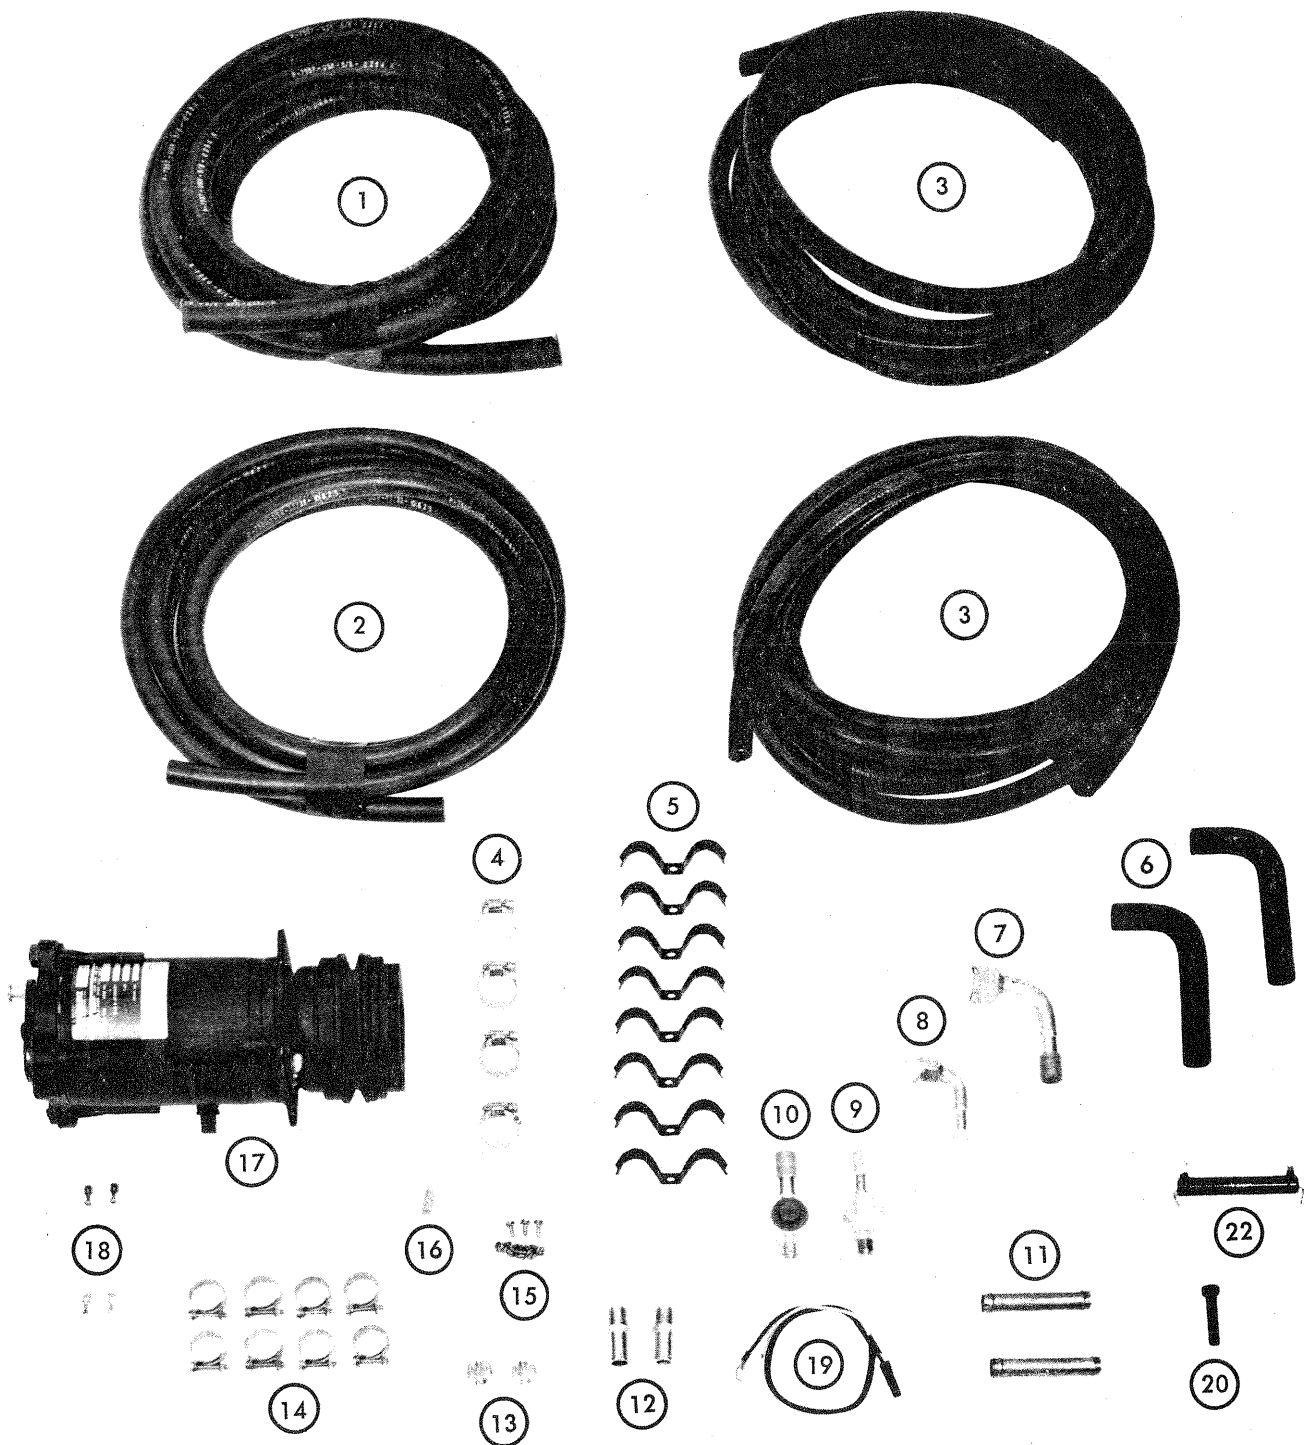

FIGURE 3
Both 524AX models are shipped in two cartons which include (1) basic roof top unit including mounting frame and interior control and outlet (console) assembly, and (2) balance of all necessary parts such as hoses, fittings, clamps and compressor. (See figs. 3 & 4.)
If a Frigidaire (Delco) compressor is used, suction and discharge fittings must be attached. Slowly unscrew the bolt holding the shipping cover plate in place (the compressor is shipped under pressure) and remove it. Carefully place the hex bodied 5/8" (suction) and 13/32" (discharge) fittings in place (See fig. 3 Items 9 and 10) directing the barbed ends in the proper direction for later attachment to the freon lines. The 5/8" fitting should attach to the left hand port (screened). Fasten securely in place with the previously removed cover plate and 3/8-24x2" bolt (fig. 3 Item 20). Torque bolt to 15-25 foot pounds.
Start at the compressor with the 5/8" I.D. hose (figs. 3 and 4, Item 1) and one large worm gear hose clamp with a locating hook (fig. 3 and 4, Item 4). Place the hose clamp over the hose with the hook against the hose end. Push the hose over the 5/8" fitting (lubri-
cate with refrigerant oil) until the end of the hose is against the flange. The hook on the clamp properly locates the clamp on the hose. Tighten the hose clamp to 40 inch pounds. Route the hose as desired to the evaporator connection on the roof top unit and, using the large 90° connector fitting as a guide (figs. 3 and 4, Item 7) cut the hose to the proper length, making sure no cuttings or foreign matter enter the hose. Again place a large hose clamp with hook over hose, insert fitting and tighten clamp to 40 inch pounds. Connect elbow fitting to evaporator connection from roof top unit.
Follow the same procedure as above with the 13/32" I.D. hose (figs. 3 and 4, Item 2). This hose with the proper fittings attached should be connected to the "Discharge" or "D" port on the compressor and to the condenser connection on the roof top unit.
Hot water from the engine is usually obtained through a tapped connection on the head, block, or thermostat housing of the engine. Locate this connection and screw in one of the straight hose connectors (figs. 3 and 4, Item 12). The water return to the engine is usually made at a tapped connection on the water pump or at a location somewhere between the pump and the lower radiator connection. Into this hole, screw in the other straight connector.
Using the hose clamps provided (figs. 3 and 4, Item 14) attach the short ends of the two rubber elbows (figs. 3 and 4, Item 6) to the connections on the side of the unit. Angle in the proper direction for continuation of hose to the engine. Then insert into each open end of the elbows the two copper tubes (figs. 3 and 4, Item 11) (halfway), and secure with two other clamps. Now attach and clamp securely the long heater hoses (figs. 3 and 4, Item 3) to these elbows, and route them to the engine fittings previously installed. NOTE: The hot water supply from the engine should be attached to the hose leading to the lower connection on the roof top unit and the return to the engine from the upper connection.
Eight dual clamps (figs. 3 and 4, Item 5) have been provided and should be used to retain all hoses to the cab, etc. to prevent scuffing and sloppy appearance, and be completed in a workmanshiplike manner.
Using the short two wire harness provided (fig. 3, Item 19), push the terminal connector end over the terminals on the compressor and ground the opposite end with the terminal to a convenient location. Now neatly route the white lead from the console to the open wire from the compressor. On 24 volt units, the 4 ohm, 50 watt resistor provided (fig. 3, Item 22) should be soldered between the white lead and the open wire from the compressor. Fasten resistor securely. NOTE: Tape or otherwise secure the power clutch leads to their route surfaces to prevent scuffing and give a good workmanshiplike appearance.